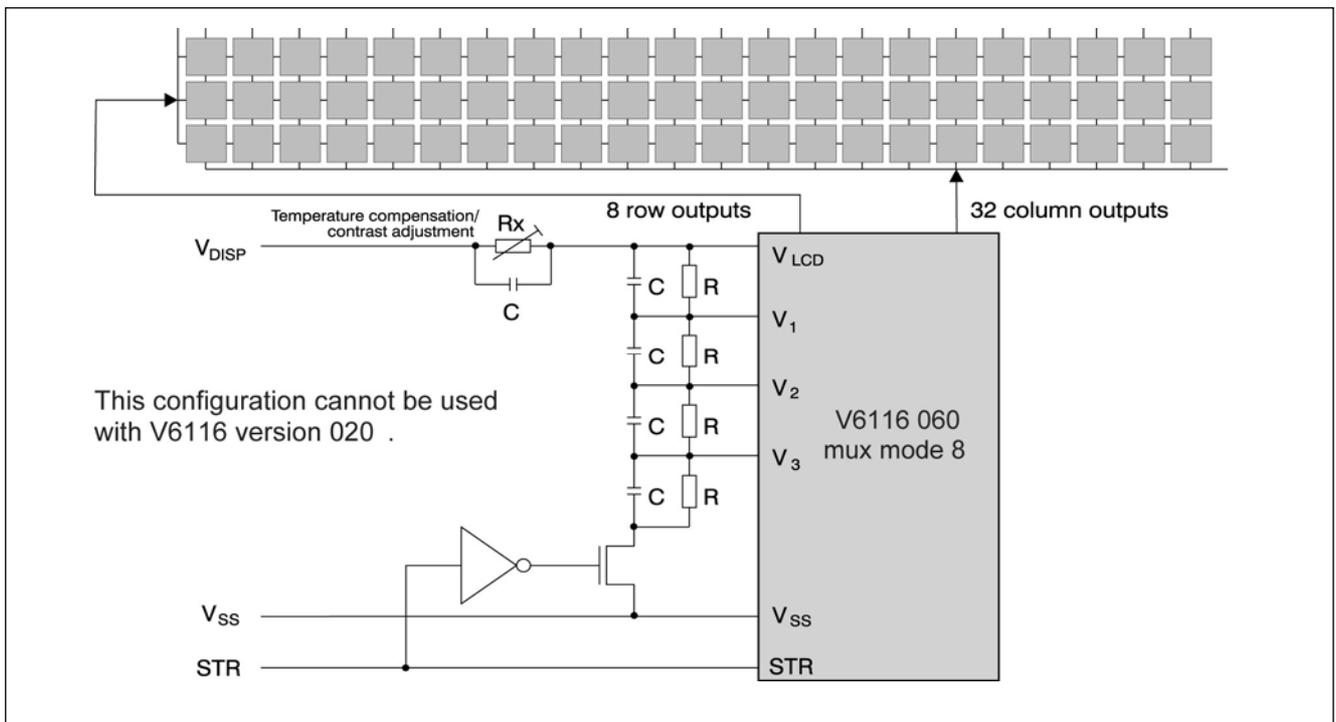

Fig. 15
**Note: if an external voltage bias generation circuit is used as shown in Fig. 12 to 14, the LCD blank function (STR high) will not blank the LCD. Fig. 15 (only available for the V6116 060, with internal resistor) shows how to do a BLANK with the external resistor divider bias by STR signal.** When STR is high, the LCD will be driven by the parallel combination of the external voltage bias generation circuit and part of the internal voltage bias generation circuit.